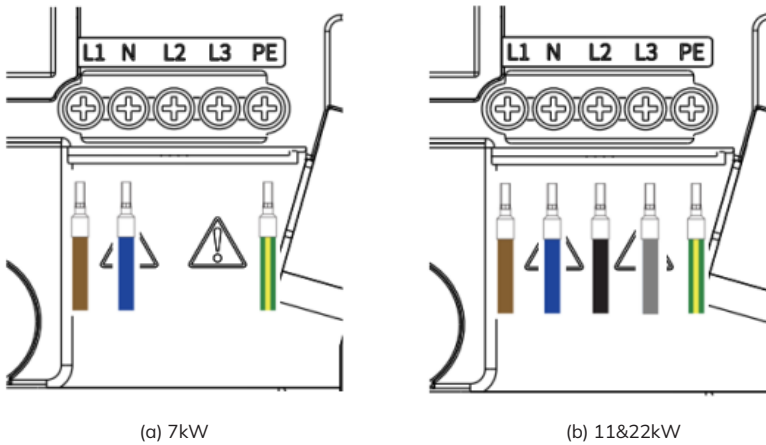

Figure 4-8 Wire stripping
- (3) If cable has flexible conductors, it is recommended to use ferrules on stranded wires. Use correct tools to press them. Connection mode of 7kW and 11kW is as shown in Figure 4-8.